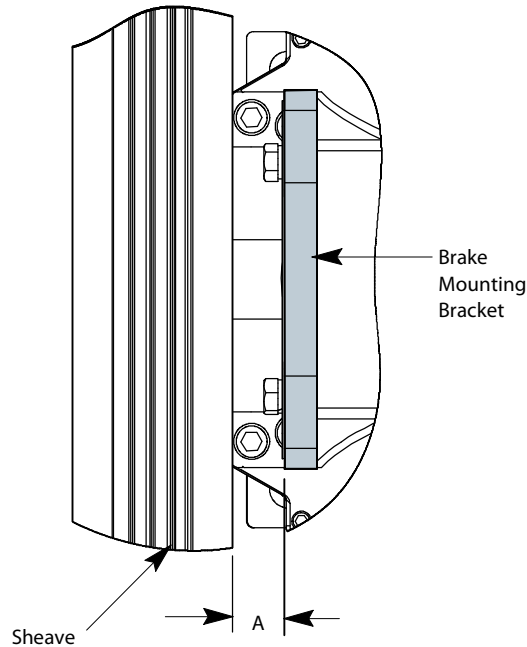

Figure 2 - Brake Mounting Bracket to Sheave Dimension
5. Measure the distance from the sheave to the machined surface of the brake mounting bracket. Determine and record the quantity of mounting bracket shims that are required. See Figure 2 and Table 1.
Dimension A (from Figure 2)	Shim Quantity